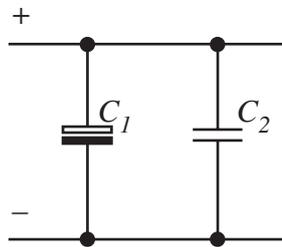

FIG. 16
5. Many power supply networks have smoothing capacitor arrangements, as shown below in FIGURE 16, where C_1 is a large electrolytic capacitor and C_2 is a small non-electrolytic capacitor. Why should we need C_2 ?